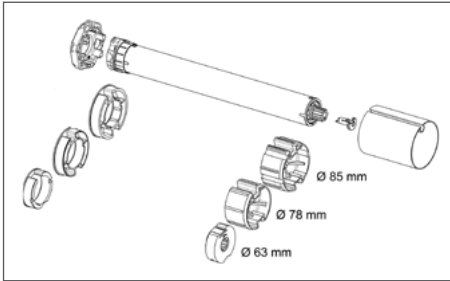

Fig. 1: Examples for different shaft sizes
1. Determine which crown and coupling are to be used according to the shaft size (Fig. 1).